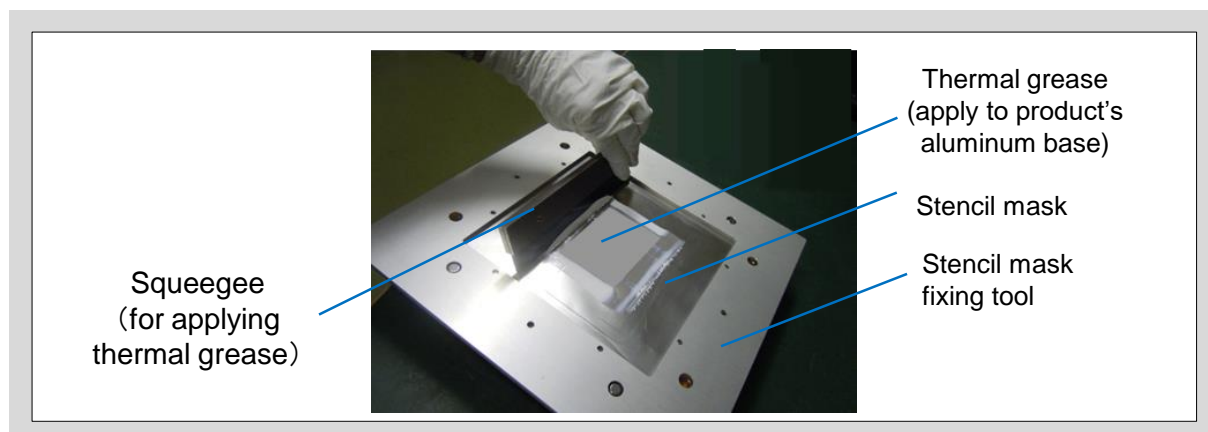

Fig. 5-1 Thermal grease application
- We recommend using the stencil mask method to control the appropriate thermal grease thickness (Fig. 5-1). The recommended stencil mask pattern is shown in appendix.